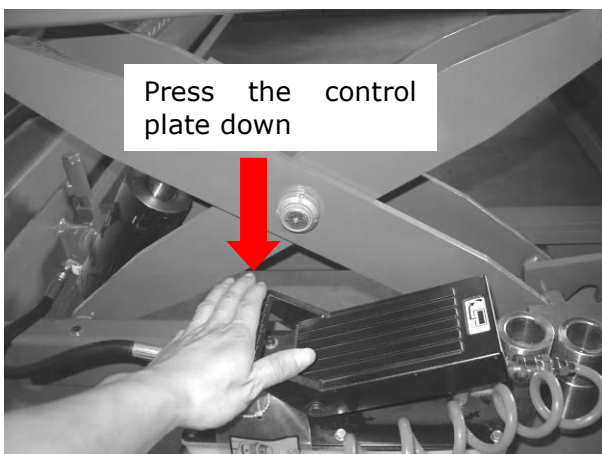

Fig. 9
- ① Press the control plate of the air pump, the W-8 will going down to the lowest position (Fig. 9)